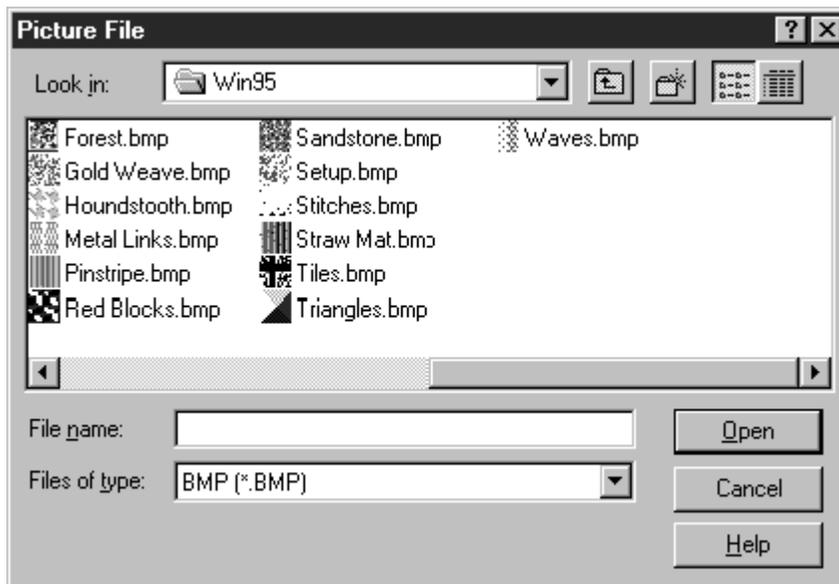

Figure 15.2 Picture File Selection Dialog
3. When the outline is the desired size, release the mouse. The Picture File selection dialog displays (see Figure 15.2). Report Designer lists files in the default image directory that have the default image file extension (if no image directory or file extension defaults have been specified, Windows BMP files in the current directory are listed). Select a file from those listed.